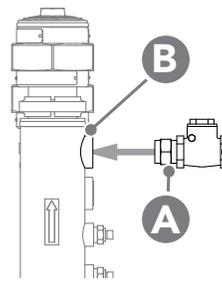

Figure 5. Modular DLV check valve and nipple assembly (A) and coolant tank outlet (B).
2. Attach check valve and nipple assembly (A) to coolant tank outlet (B). See Fig. 5.